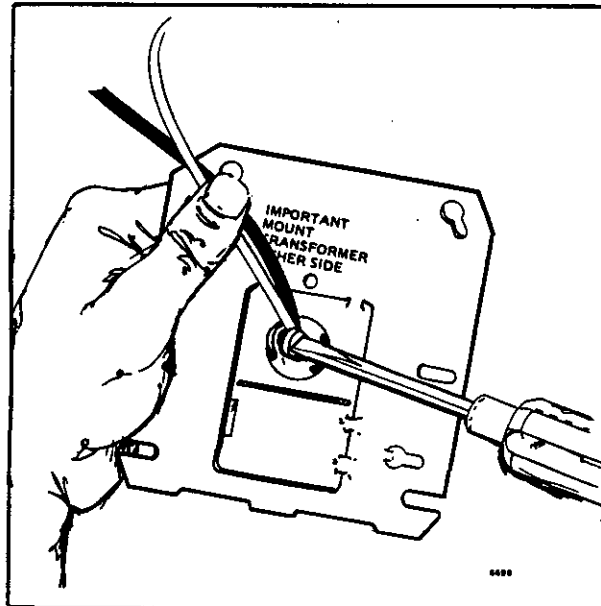

FIG. 19—TIGHTEN CLAMP SECURELY AGAINST RIM OF ROUND HOLE.
2. Tighten clamp screw securely against rim of knockout (Fig. 19). Avoid damaging the leadwires with the screwdriver.
3. With plate in place over clamp, tighten screw securely against rim of round hole. See Fig. 19. Avoid damaging the leadwires with the screwdriver.